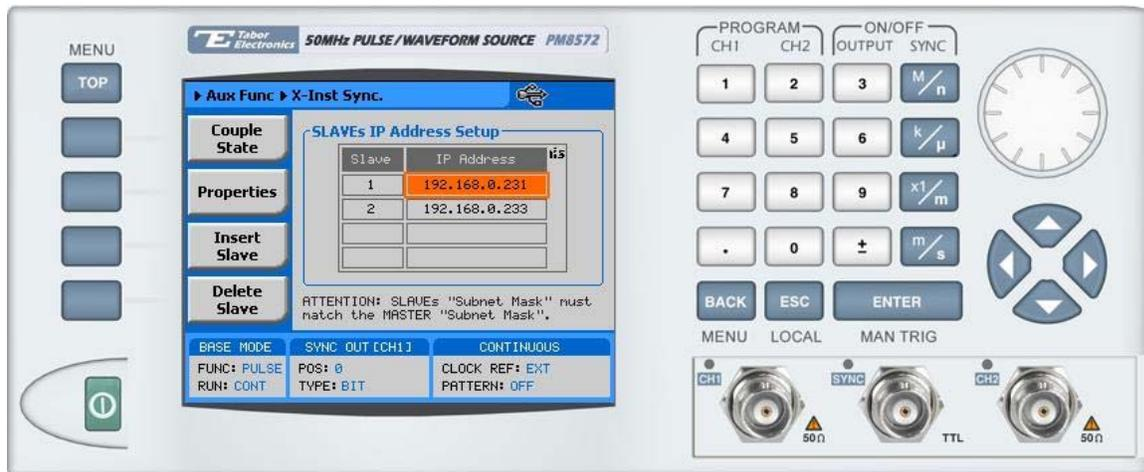

Figure 3-95, Programming Slaves IP Address
Slave units are identified by their LAN address. Press the Slaves IP Address soft key button to access the identification menu as shown in Figure 3-95.
9. Slave channels can be delayed in reference to the master channels by a pre-defined number of sample clocks. Observe Figure 3-95 and access the Start Phase field in the Synchronization Properties group. The start phase defines the delay time that the instrument will hold off before it will start